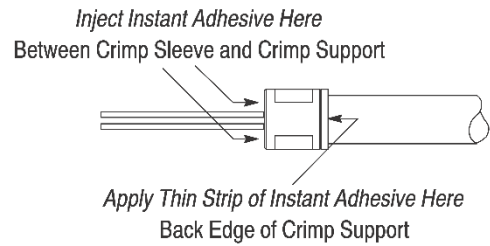

Figure 4
9. From the front of the crimp sleeve, inject the instant adhesive between the crimp sleeve and crimp support so that the crimp sleeve, crimp support, and cable strength members bond as a unit. Then apply a thin strip of the instant adhesive around the back edge of the crimp support. See Figure 4. Remove any excess adhesive from the outside and back edge of the crimp sleeve.